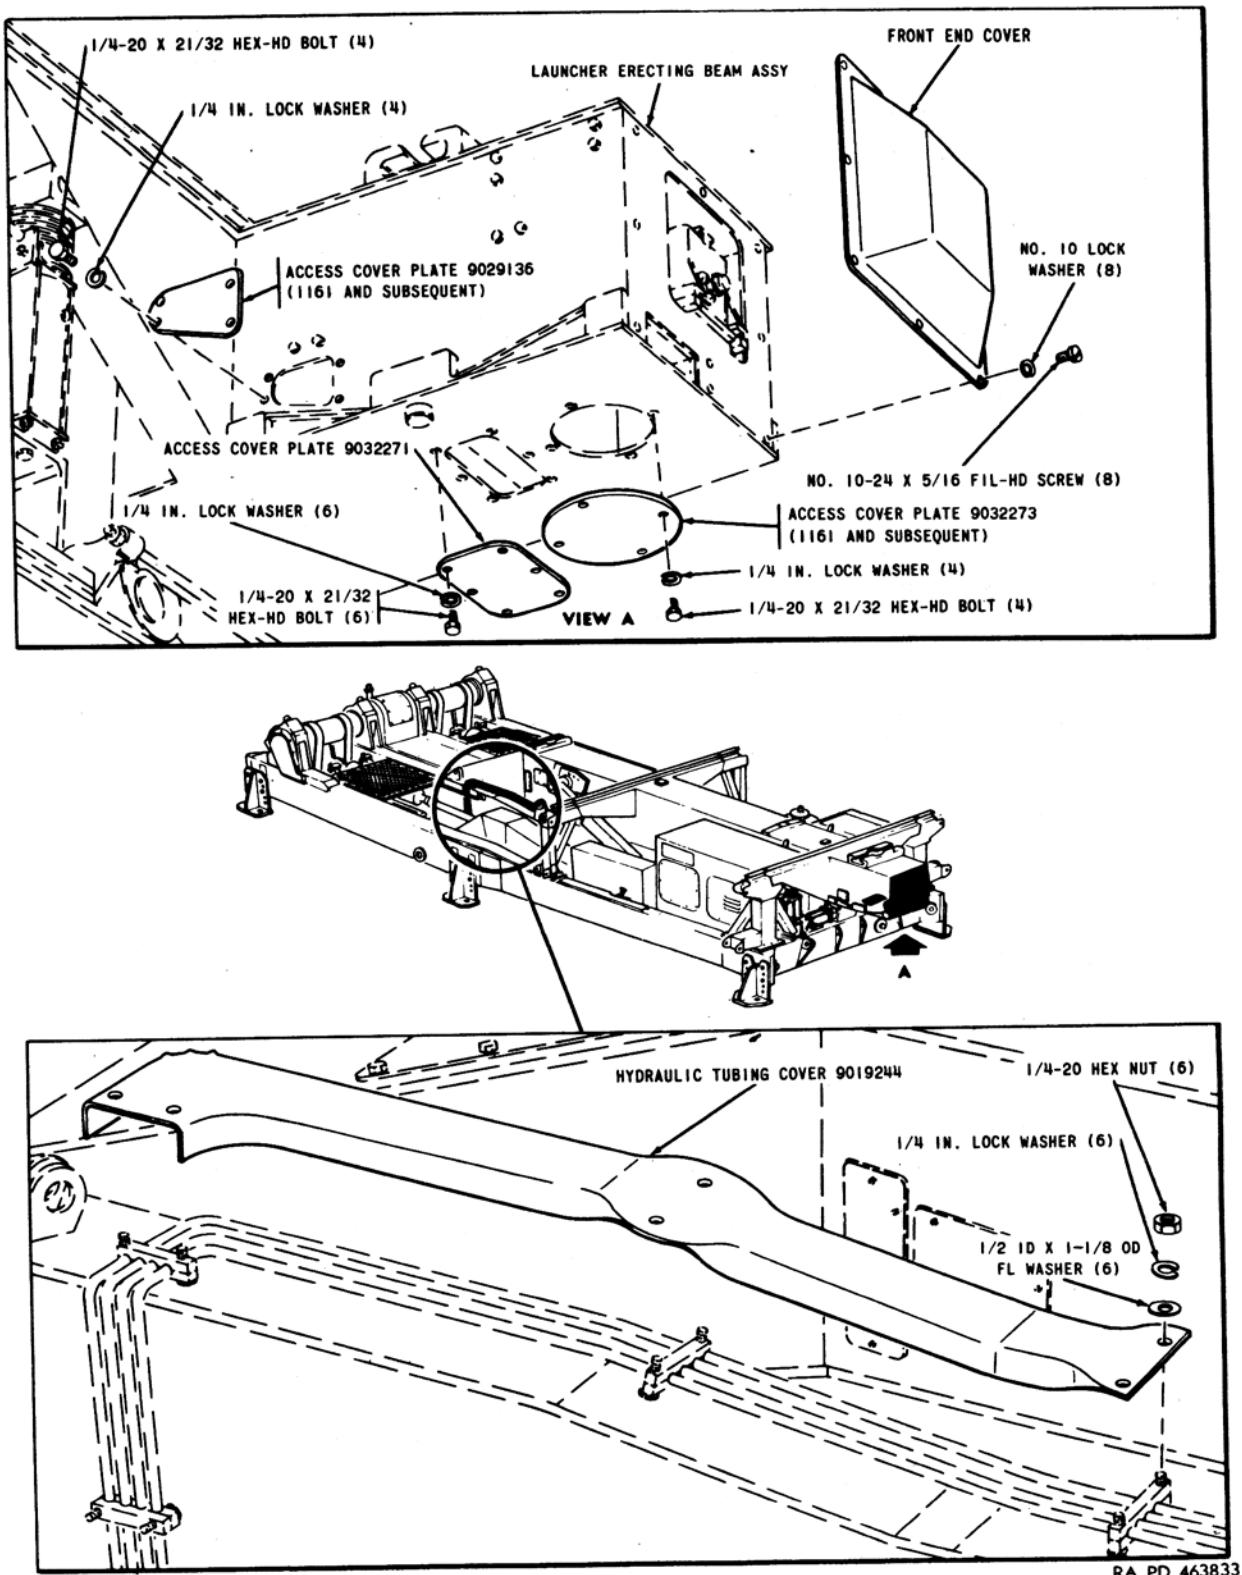

Figure 180. Hydraulic network access covers – removal and installation.
- (2) Depressurize the hydraulic oil reservoir by turning the handle of the plug cock to the VENT position and holding until all pressure is discharged.
- (3) Remove the three plates (view A, fig. 180) and the front end cover.
- (4) Install the three access cover plates and front end cover (view A, fig. 180), the beam center cover (fig. 82), and the three gasket cover assemblies (fig. 83).
- (1) Remove the beam center cover and erecting beam trunnion dust cover (fig. 82); remove the 3 access cover plates (fig. 180).
- (2) Raise the erecting beam to the up-and-locked position as outlined in paragraph 44.
- (3) Pressurize the hydraulic oil reservoir to 18 to 22 psi by turning the handle of the plug cock to AIR position.
- (4) Lower the launcher erecting beam to the down-and-locked position as outlined in paragraph 44.
- (5) Bleed the air from the lines as outlined in TM 9-1440-250-20/1.
- (6) Install the beam center cover and erecting beam trunnion dust cover (fig. 82); install the three access cover plates (fig. 180).
- (4) Remove the three plates (view A, fig. 180) and the beam center cover (fig. 82).
- (11) Install the three access cover plates (view A, fig. 180) and beam center cover (fig. 82).
- (4) Remove the three access cover plates (view A, fig. 180) and beam center cover (fig. 82).
- (5) Install the three access cover plates (view A, fig. 180) and beam center cover (fig. 82).